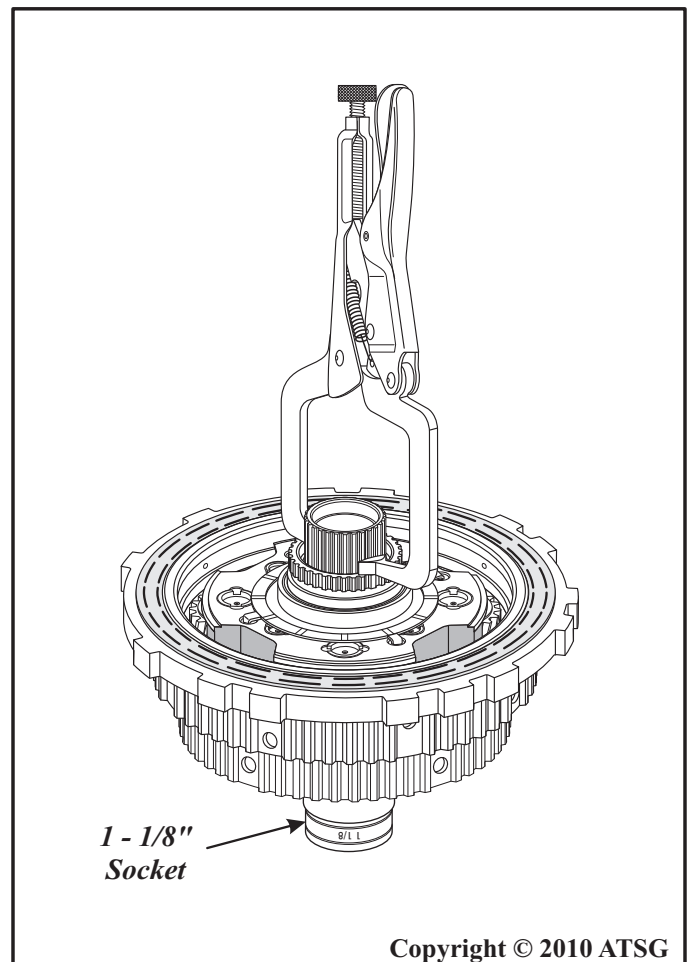

Figure 137
14. Gently roll the complete assembly over while holding the socket in place until the planetary assembly is setting upright on the socket, as shown in Figure 137.
15. Carefully place the vice-grips on the splines of rear sun gear and against the shoulder of the front sun gear, as shown in Figure 137, and set the complete assembly aside for final assembly.